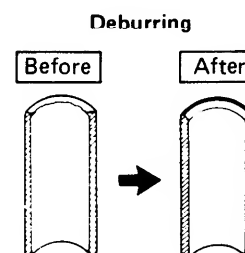

Fig. 23
- Remove burrs at the end of the copper pipe with a pipe reamer or a file. This process is important and should be done carefully to make a good flare. Fig. 23